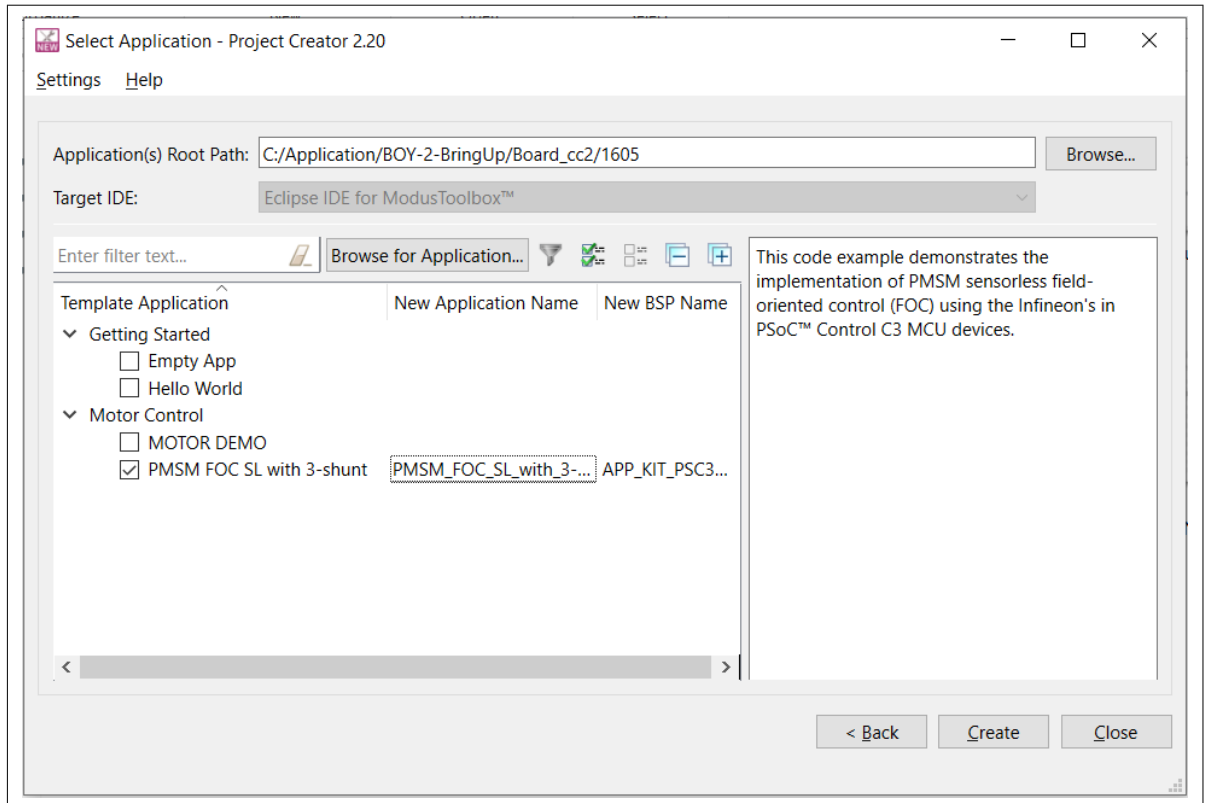

Figure 27 Code example selection
4. Select **PMSM FOC SL with 3-shunt** within the Motor Control to create a 3-shunt FOC project for KIT_PSC3M5_CC2 kit as shown in Figure 27